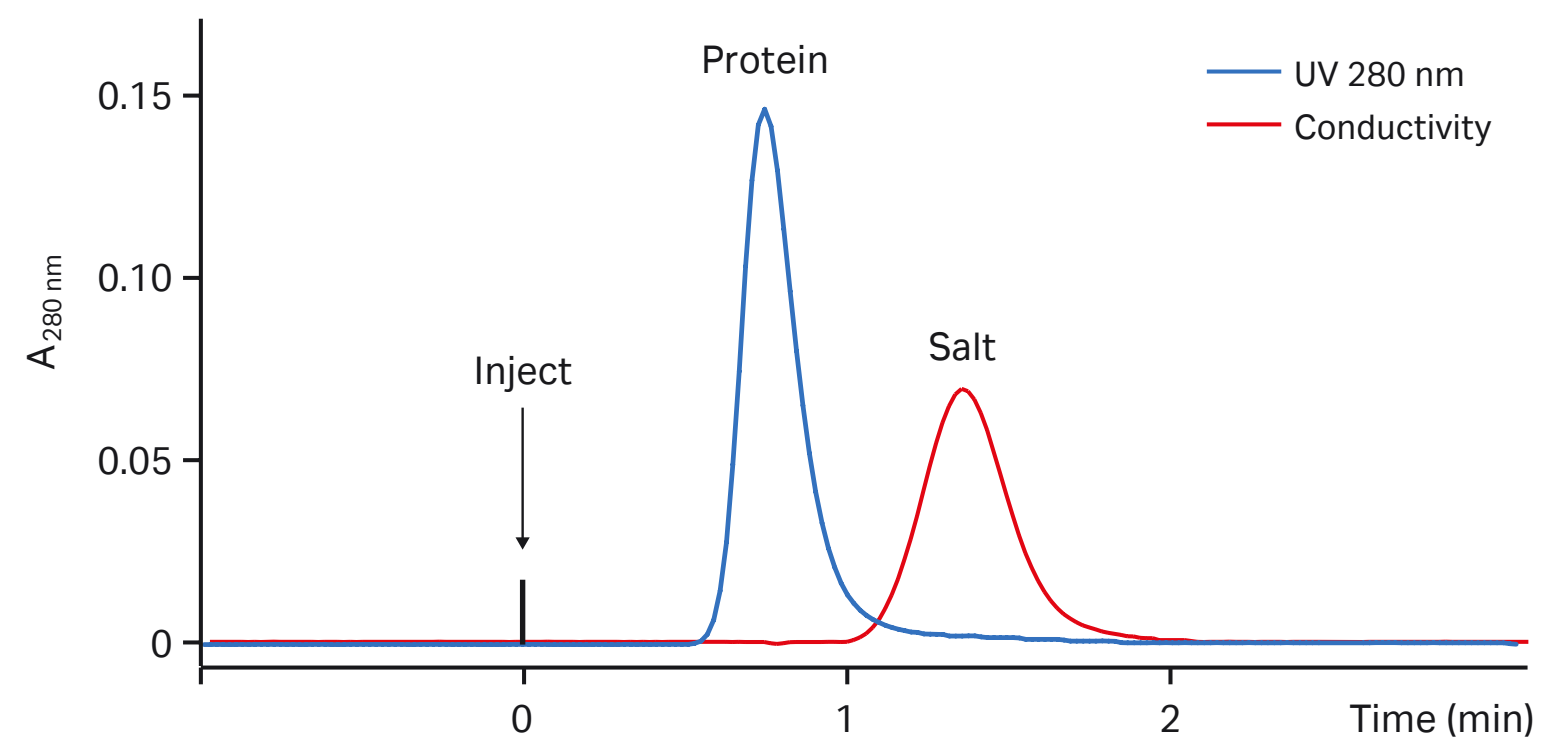

Fig 2. Typical group separation.
- 1. Group separations** where the components of a sample are separated into two major groups according to size range (Fig 2). A group separation can be used to remove high or low molecular weight contaminants, such as phenol red from culture fluids, or for desalting and buffer exchange.